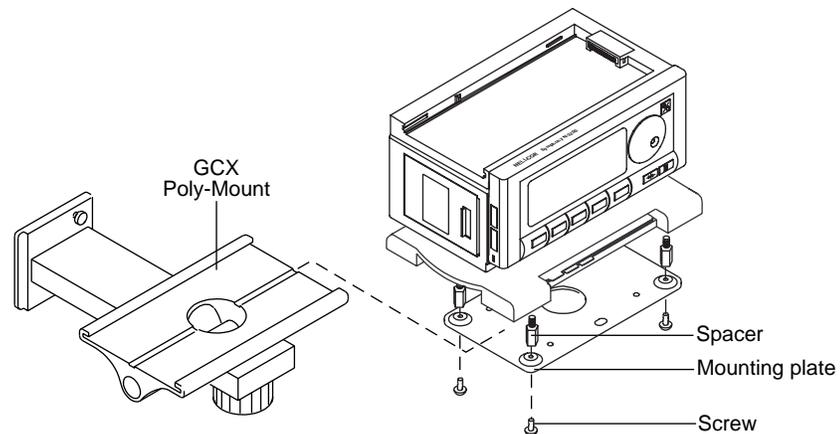

Figure 6-20: Mounting to the GCX Poly-Mount
3. Slide the mounting plate and N-3200 into the GCX Poly-Mount slots as illustrated in Figure 6-20.